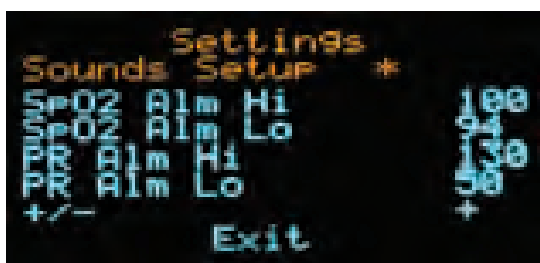

Figure 3.3.1
There are two types of submenus; Alarm Setup and Sounds Setup. To switch between the setups, ensure the * is next to the word Sounds Setup or Alm Setup, then press (M) for one second to switch between menus, as per figures 3.3.1 and 3.3.2.
Hold down the (M) button for one second to bring up the sound menu as per figure 3.3.1. Press (M) quickly to move down the menu.